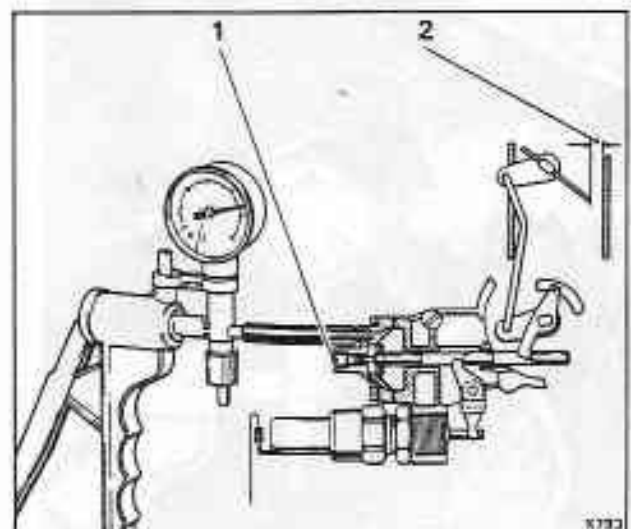

Fig. K11-30 Automatic choke pulldown setting
To achieve this, the pulldown device varies the gap between the edge of the primary strangler flap and the carburetter cover (see fig. K11-30).
The variable choke pulldown device consists of an electrically heated 'waxstat' capsule mounted beneath the choke pulldown device diaphragm housing (see fig. K11-30).
If both the engine and the ambient temperatures are low, the wax in the variable pulldown device will contract and pull the operating plunger inwards (see fig. K11-30). This will turn the operating lever clockwise to a set position thus preventing the pulldown rod from opening the strangler flap too far (i.e. smaller pulldown gap).
2. Remove the air chest lid and disconnect the vacuum hose to the choke pulldown device (see fig. K11-30). Connect a vacuum pump to the pulldown device and depress the throttle so as to engage full fast-idle.
5. Measure the gap between the edge of the strangler flap and the carburettor cover (see fig. K11-30). This should be 6 mm \pm 0,5 mm (0.236 in \pm 0.020 in).
6. If the gap is incorrect, adjust the diaphragm stop screw (see fig. K11-30) either outwards to increase the gap or inwards to decrease the gap.